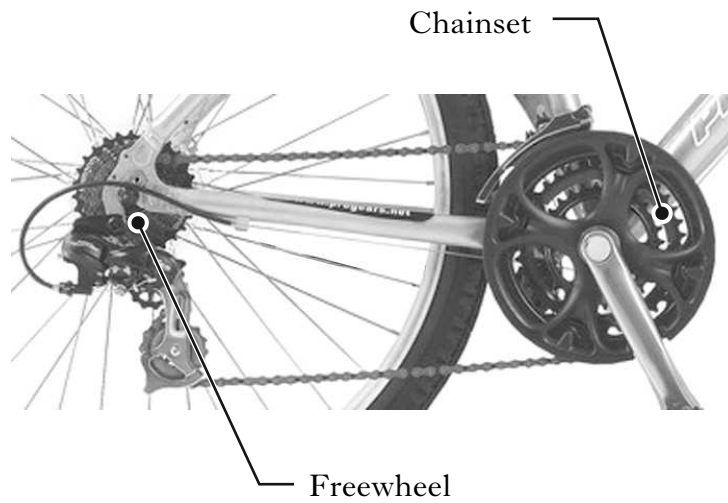

Figure Q8
8. The drive mechanism used on a bicycle is shown in Figure Q8.
The bicycle shown in Figure Q8 has a 21 speed gearing system which can be made up from the gears in the table below.